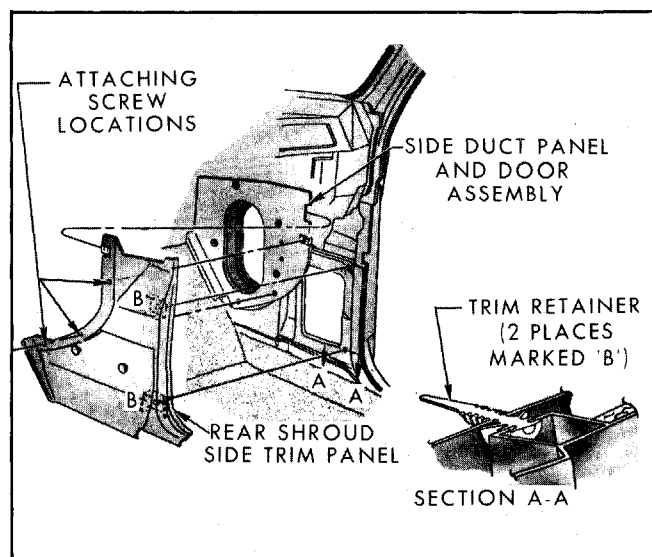

Fig. 4-16 - Rear Shroud Trim Panel - Right Side
2. Remove three screws securing rear trim panel to side shroud; then using trim removal tool J-24595, BT-7323 or equivalent, disengage two trim fasteners from side shroud panel (Fig. 4-16).